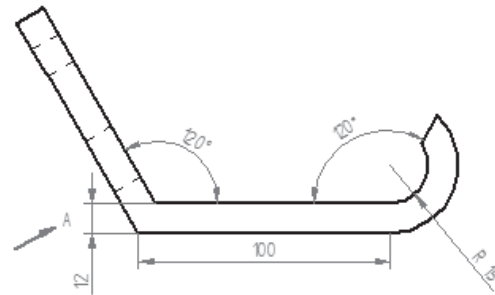

Figure 11-42 Front view after placing the angular dimension
6. Place the missing dimensions, as shown in Figure 11-42, using the dimensioning tools.